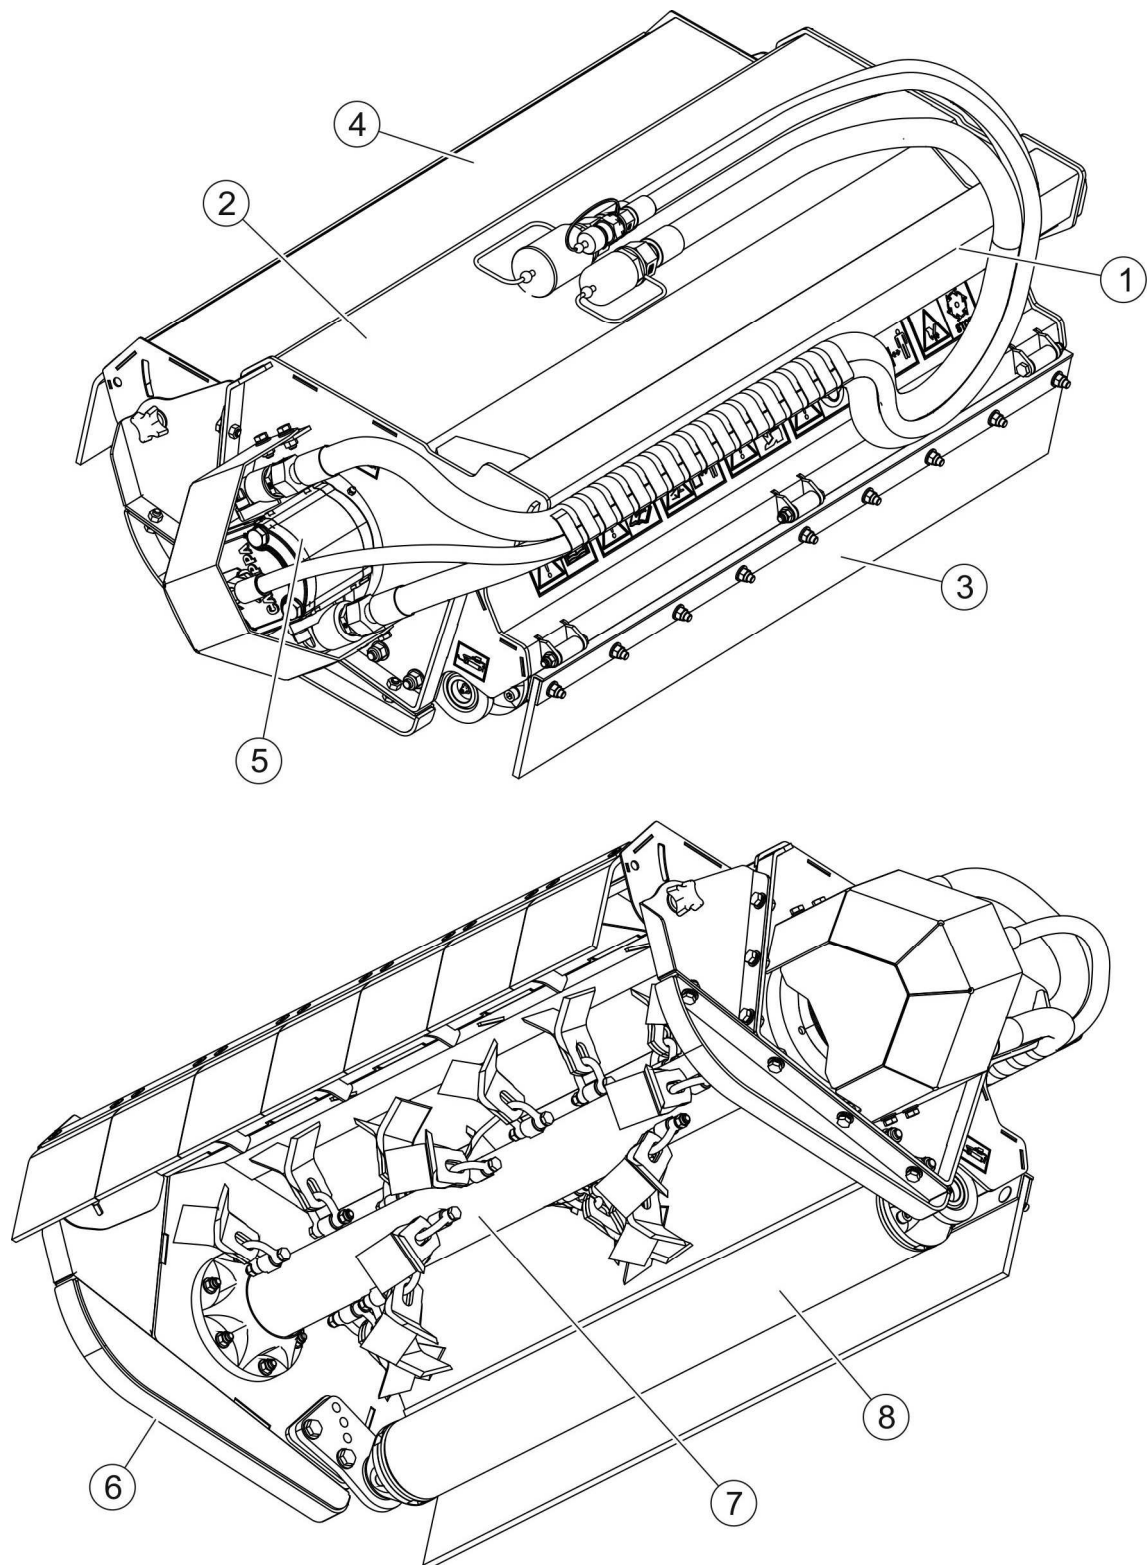

FIGURE 3.1 General design
(1)- support beam; (2)- housing; (3)- rubber apron; (4)- front guard; (5)- drive transmission system; (6)- slide; (7)- cutting shaft; (8)- tracking shaft.
The mowing head consists of support beam (1) (FIGURE 3.1) that enables connection of the mowing head with the multifunction arm, the drive transmission system (5) and the cutting unit composed of flail shaft (7) and tracking shaft (8). The complete cutting unit is shielded with housing (2) as well as front guard (4) and rubber apron (3).